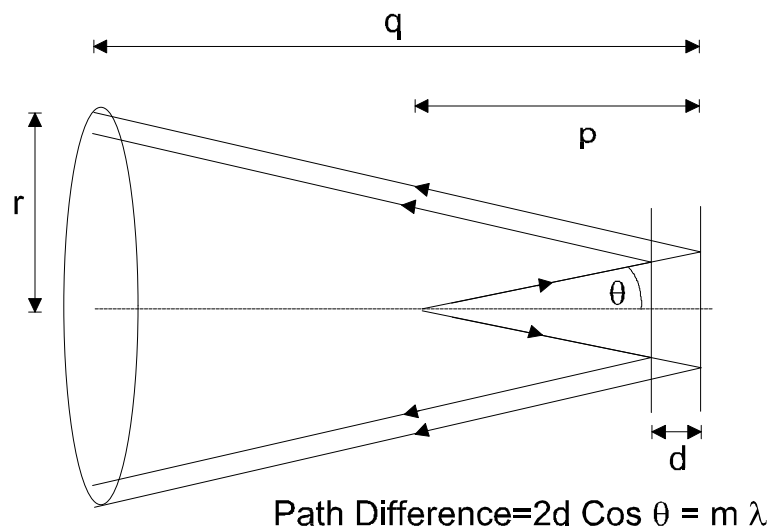

Figure 2:
3. Increase  $d$  slightly until you get rings. Referring to Figure 2, measure,  $\Delta r$ , the fringe spacing (distance between two adjacent rings). To do this, use the lab's digital camera to take a picture of the fringe pattern on the screen. You will find it helpful to hold a ruler next to the screen when you take a picture so that you can later determine the fringe spacing. Make sure to record the focal length of the lens and the distance from the screen to the lens and the lens to the beamsplitter. You will need these values to determine the magnification of the fringe spacing due to the lens.
5. From Figure 2, the radius of the rings is given by: